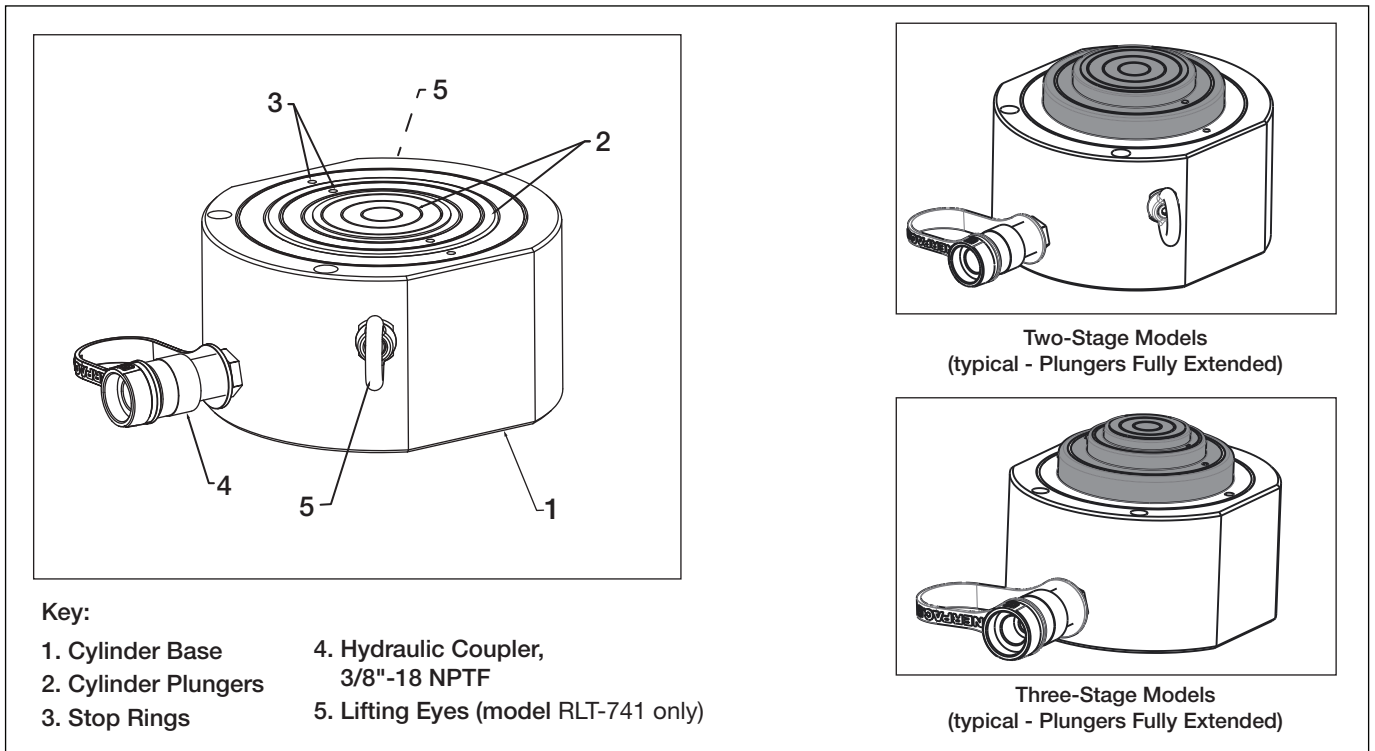

Figure 1, Major Features and Components, RLT-Series Hydraulic Cylinders (Typical)
Refer to Figure 1, item 4 for location.